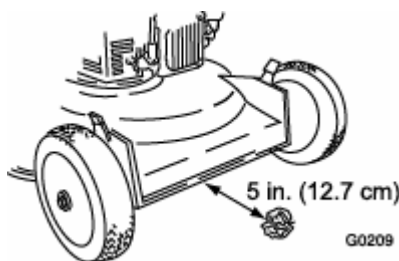

Figure 8
5. Take a half sheet of newspaper and crumple it into ball small enough to go under the deck (about three inches or 76 mm in diameter) as shown in Figure 8.
6. Place the ball of newspaper five inches (12.7 cm) in front of the lawn mower (Fig. 8).